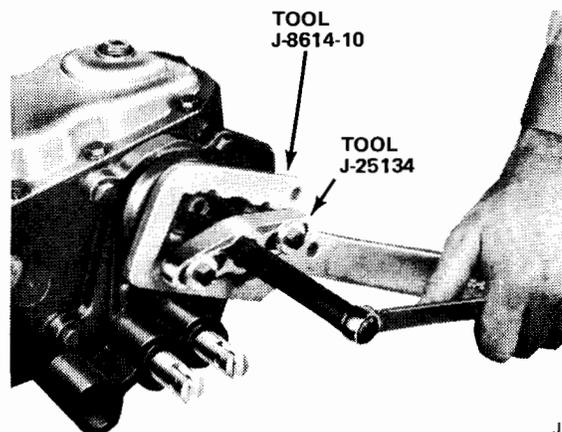

Fig. 8-9 Universal Joint Yoke Puller
- (3) Remove front propeller shaft yoke with Puller J-25134 (fig. 8-9).
- (4) With Universal Joint Yoke Puller J-25134, remove yoke from shaft (fig. 8-9).
- (6) Align Arbor Tool J-25142 in intermediate gear assembly and remove gear assembly and thrust washers.
- (7) Remove front output shaft nut and washer.
- (8) Remove front output shaft yoke using Yoke Holding Wrench J-8614-10 and Yoke Puller J-25134 (fig. 8-9).